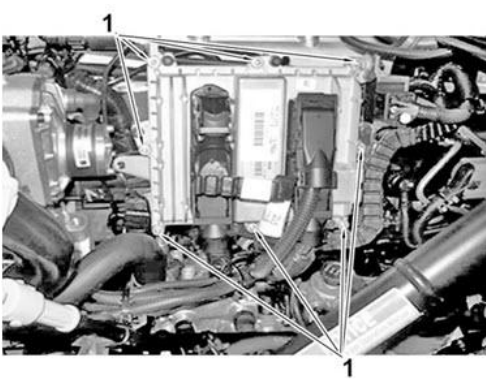

**Figure 18 - Cold Start Solenoid**
22. Reinstall cold start fuel solenoid to ECM bracket and torque 2 bolts to 53 in-lb (6N•m) (Figure 18, Item 1).